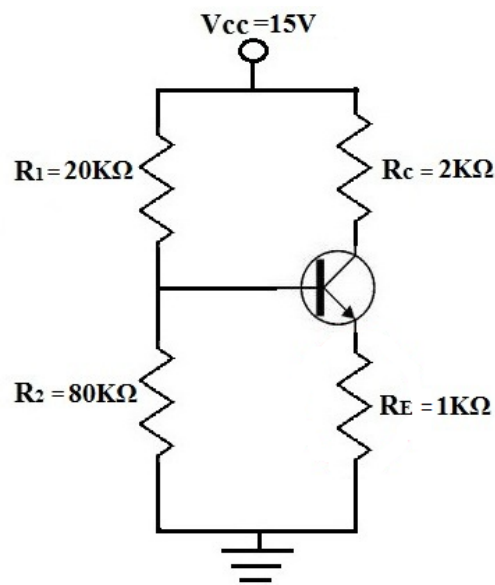

Figure 1
2. Assemble the circuit shown in Figure 1 on breadboard. You should use the elements in the list of resistors and potentiometers (see next page).